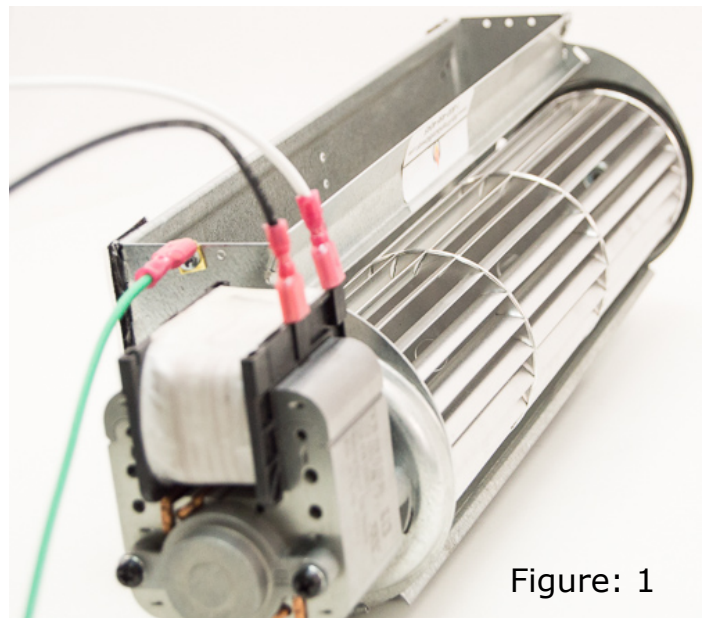

Figure: 1
Step 2: Push the Green Ground Wire disconnect onto the ground tab on the end of fan. (Figure: 1)
Connect White and Black wires to either of the spade terminals attached to motor. Push disconnects onto metal tabs. (Figure: 1)